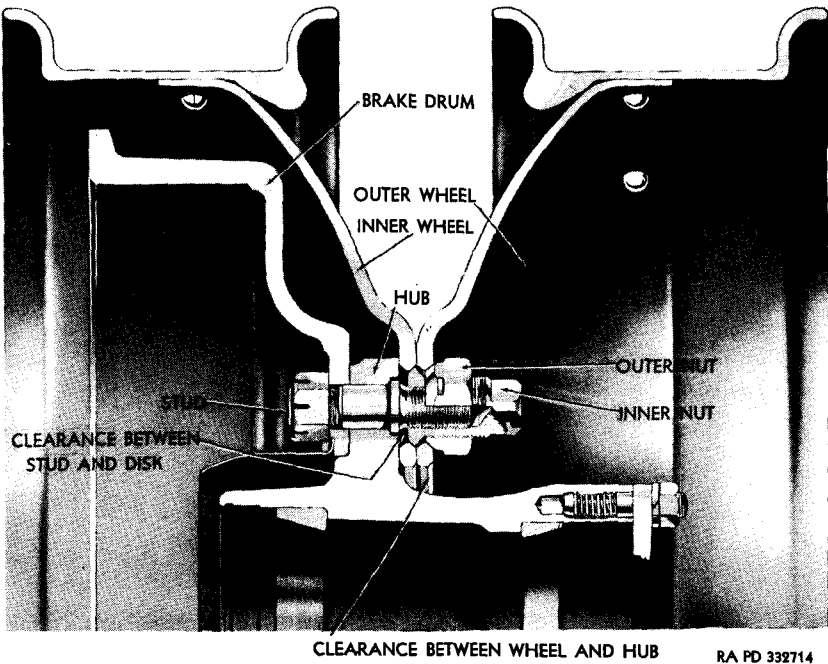

Figure 22—Section Through Dual Wheels and Hub
(2) **REMOVAL** (fig. 22). Remove wheels (subpar. a. above). Remove hub caps, bearing adjustment jam nut, lock, and adjusting nut. Pull hub off from axle spindle. **CAUTION:** *Do not allow bearing to drop on floor when removing hub.* Bearing cups are pressed into hubs. Remove with bearing puller. Remove hub-to-drum bolts, and nuts, and press hub from drum.